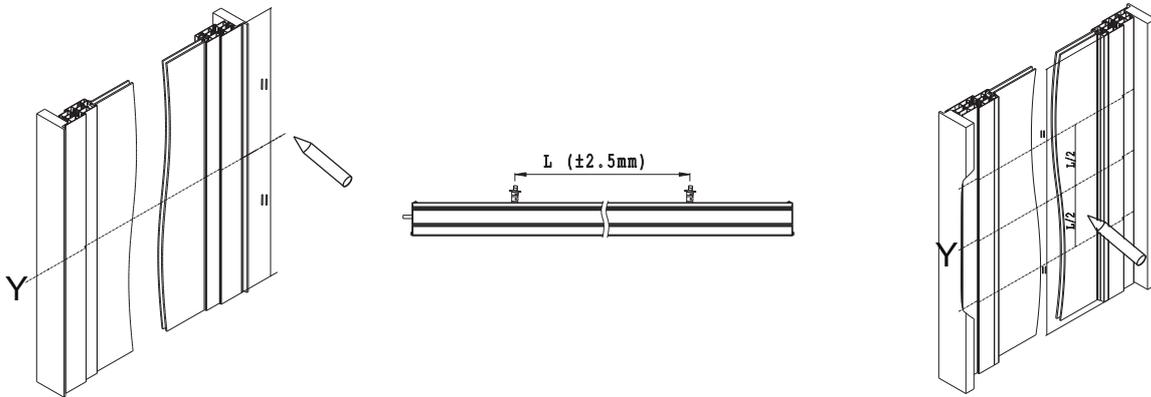

Fig. 11
- 3) Fig.11 - Taking as reference the axis **Y1** and **Y2** previously traced and the hole layout for the application **A5_1(A5_2)**, mark the points for the holes to fasten the brackets **S3** and **SG**;
- 4) Fig. 11 - With a suitable drill, create on the window the holes;